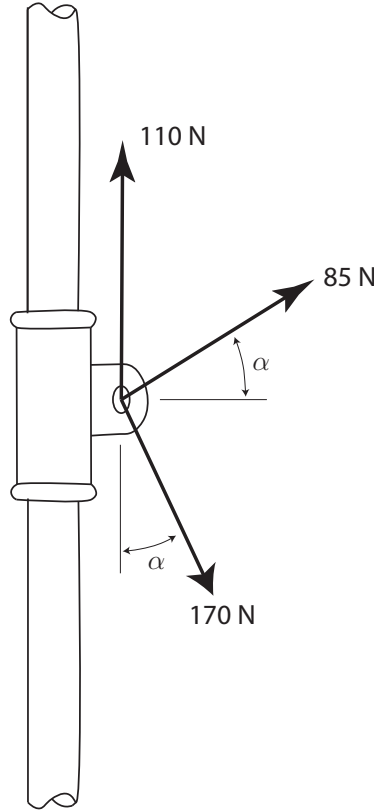

Figure 2: Problem 2.
2. In Fig. 2 a collar that can slide on a vertical rod is subjected to three applied forces. Find the angle α such that the resultant force being applied to the collar is horizontal; i.e. determine the condition such that $\mathbf{R} \cdot \mathbf{e}_y = 0$. If you do not see how to solve this problem exactly, it is perfectly ok to determine your angle by trial and error, by making a plot, or solving using a numerical algorithm, et cetera.